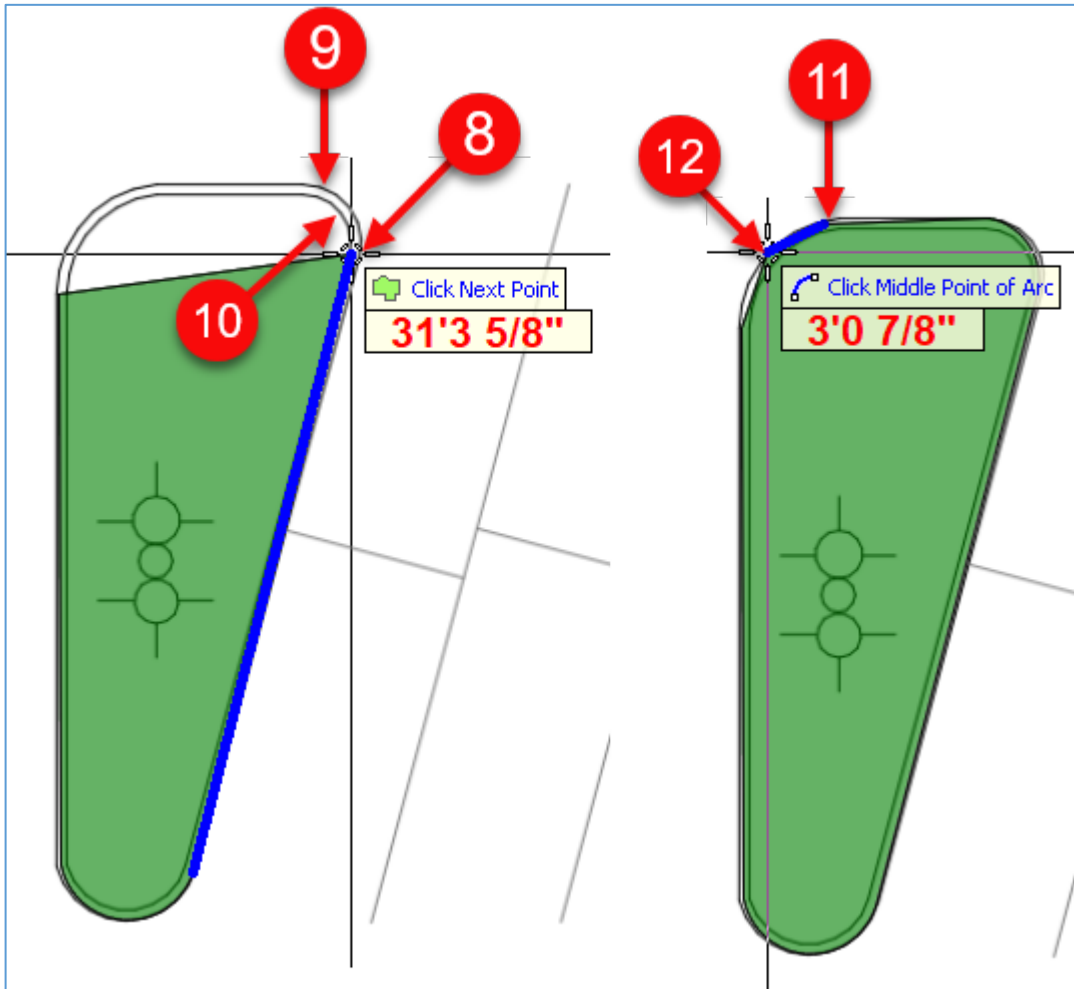

Figure 23-B
13. Complete the takeoff by pressing the **Esc** key (or by clicking on **Digitizer Record** button or by right-clicking and selecting **Stop** from the drop-down menu or by pressing the letter **C** on the keyboard) (Fig. 23-C).